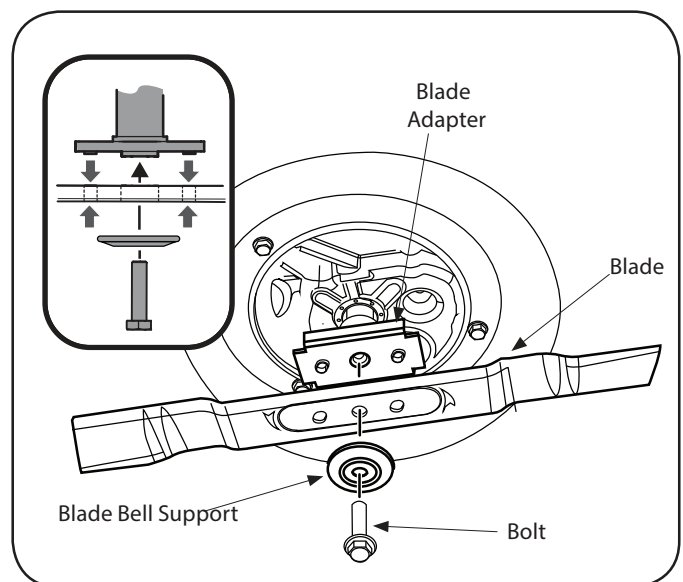

Figure 13
2. Remove the bolt and the blade bell support which hold the blade and the blade adapter to the engine crankshaft (Figure 13).
5. Lubricate the engine crankshaft and the inner surface of the blade adapter with light oil. Slide the blade adapter onto the engine crankshaft. Place the blade on the adapter such that the side of the blade marked "Bottom" (or with part number) faces the ground when the mower is in the operating position. Make sure that the blade is aligned and seated on the blade adapter flanges. See Figure 13 inset.